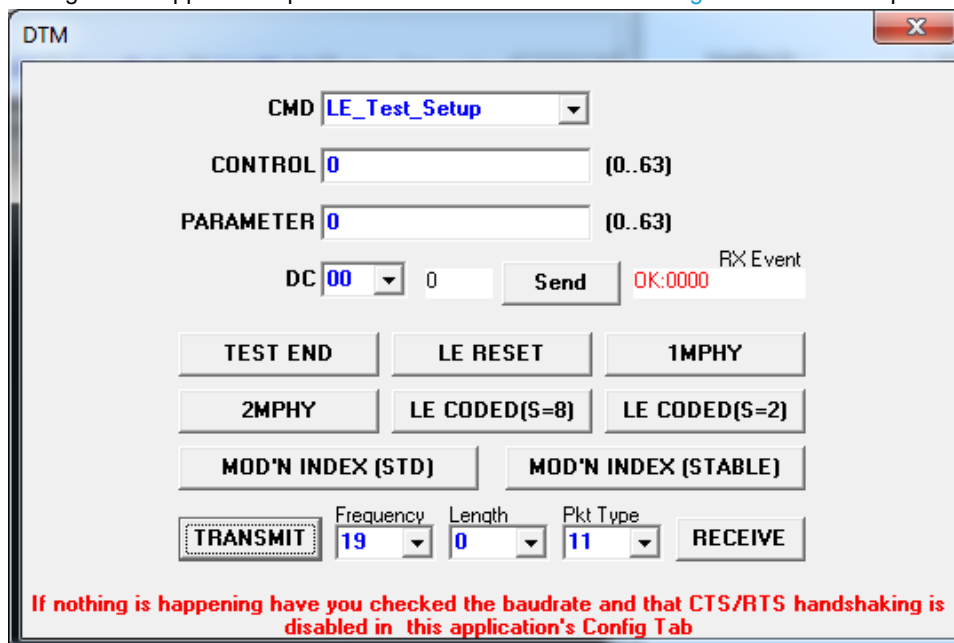

Figure 9: Direct Test Mode options
2. Configure the applicable options in the Direct Test Mode. See Figure 9 for an example.